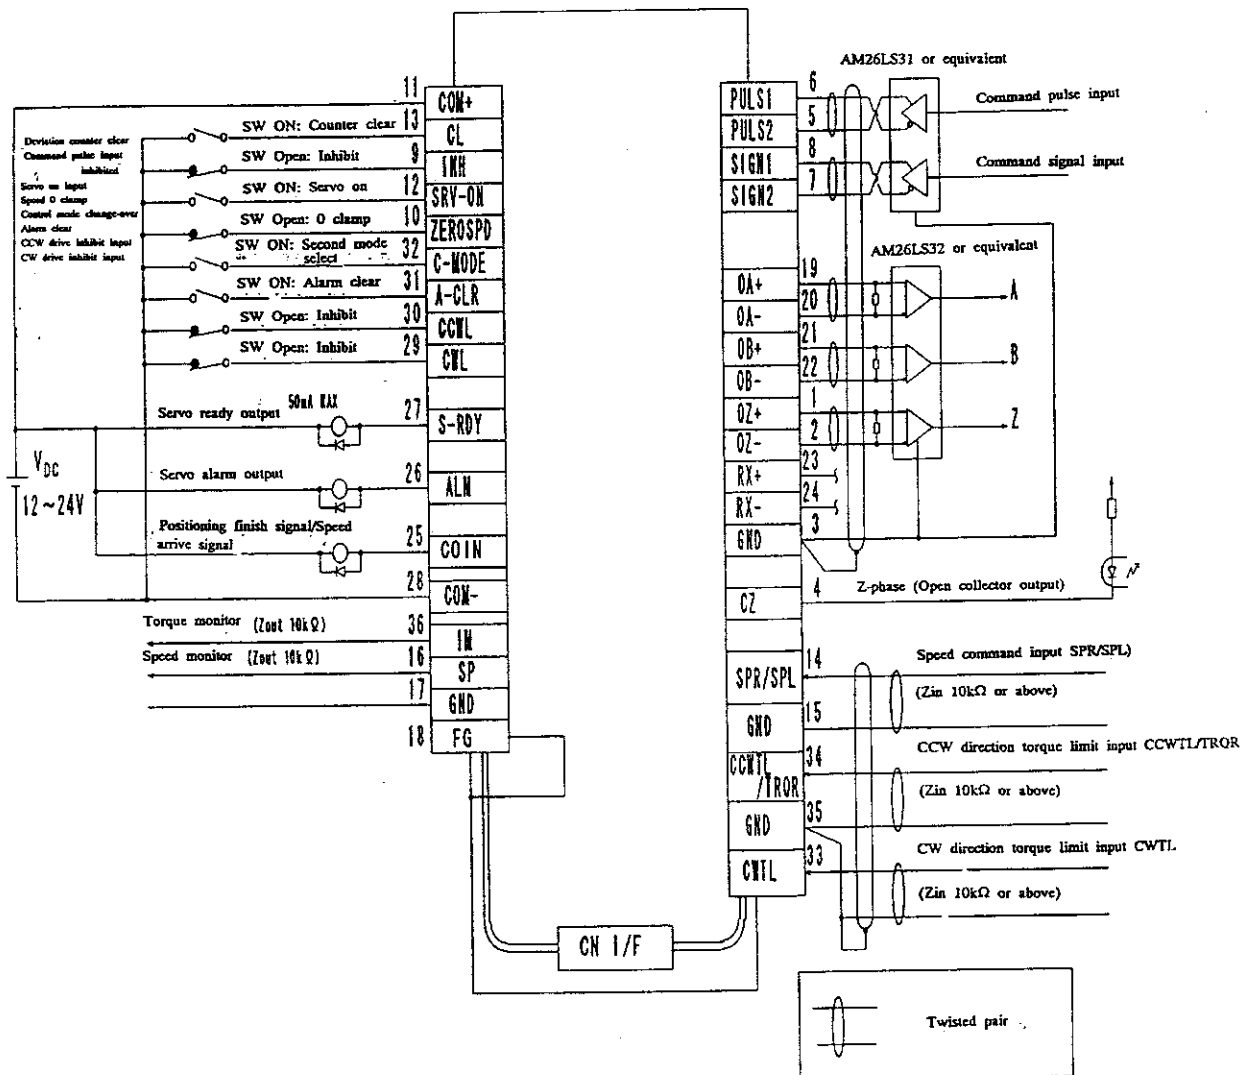

Fig. 5-2 Example of wiring to connector CN I/F
- (1) Please make wiring per Fig. 5-2, "Wiring example to connector, CN I/F". As for the pin arrangement of CN I/F, refer to 13-1 [Connector kit for connecting external equipment] (Page 61).
- (2) Please prepare a power supply for a control signal with DC12-24V, used for external control connected between COM + and COM -.
- (3) Please shorten the wiring of the driver and other equipment as much as possible (3 m or shorter).
- (4) Please separate this wiring from the power lines (R, S, T, U, V, W,  $\oplus$ ), as much as possible (30 cm or more). Please avoid passing both wires into the same duct or binding them together. It may cause malfunction.
- (5) Please do not apply more than DC 24V or 50mA, to each terminal of the control output (S-RD1, ALM, COIN), or avoid applying reverse polarity. This may cause damage to the driver.
- (6) If you directly drive a relay with the control output terminals, please install a diode in parallel with the relay as Fig. 5-2 shows. If you do not install a diode, or install it in reverse direction, this may cause damage to the driver.
- (7) As per Fig. 5-2, please use shielded, twisted pair wires for a signal line of CN I/F (analog command input, command pulse input, feed-back pulse output of the encoder etc.). Please ground the shield to the signal ground (GND) of the driver. (Though the shield of other equipment normally open, in case affected by extreme noise, connect shield of both driver and other equipment to frame ground.)
- (8) Frame ground terminal (FG) is connected with the earth terminal ( $\oplus$ ) in the driver.